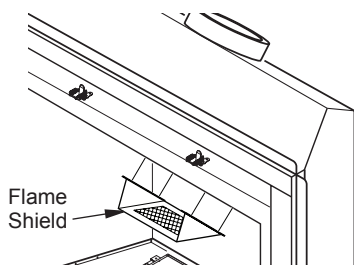

Figure 7 - Remove Flame Shield (Flame Shield Will Vary by Model)
8. Remove screws from flame shield. Flame shield is located over the venting hole in upper portion of firebox. A new flame shield is supplied with the new module (see Figure 7)
8. Remove screws from flame shield. The flame shield is over the venting hole in the upper portion of the firebox. A new flame shield is supplied with the new module (see Figure 7, page 3).
6. Using black hex screws provided, attach new flame shield to upper portion of firebox as shown in Figure 7, page 3.